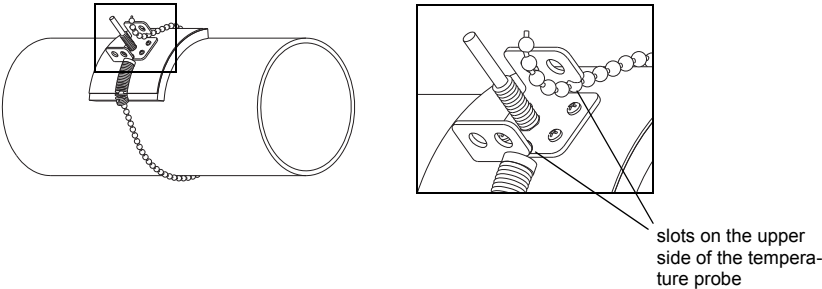

Fig. 9.7: Clasp
- Take the spring end of the ball chain and insert the last ball in one of the slots on the upper side of the temperature probe (see Fig. 9.7).